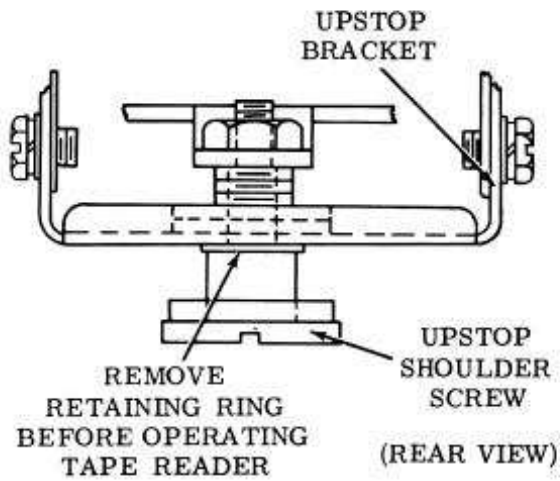

Figure 10 - Tape Reader Upstop Bracket Retaining Ring
Note: On an ASR, before replacing the cover over the typing unit and onto the subbase, remove the retaining ring from the tape reader upstop screw (Figure 10), and the yellow packing clip from under the tape punch sensing lever (Paragraph 7.01).
5.01 A retaining ring (Figure 10) is assembled to the upstop screw to prevent the sensing pins from being dislodged during shipment. This retaining ring must be removed before placing the tape reader in operation. Check the packing instructions.